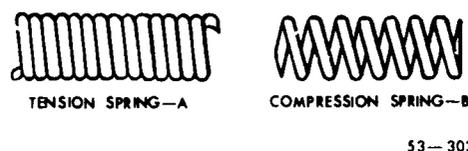

Figure 168. Coil springs.
**12-19. Spring Winding.** Both tension and compression coil springs can be wound on a lathe. A *tension spring*, figure 168,A, is one in which the coils lie one against the other, as in a screen door spring. When tension is exerted on the spring, the coils spread apart, and the tendency of the spring, is to pull back to its original form. A *compression spring*, figure 168,B, is one in which the coils are wound a definite distance apart with a fixed space between them. The valve springs of automobiles are compression springs. When force is exerted on the spring, it is compressed, and the coils have a tendency to push or spring back to their original spacing.